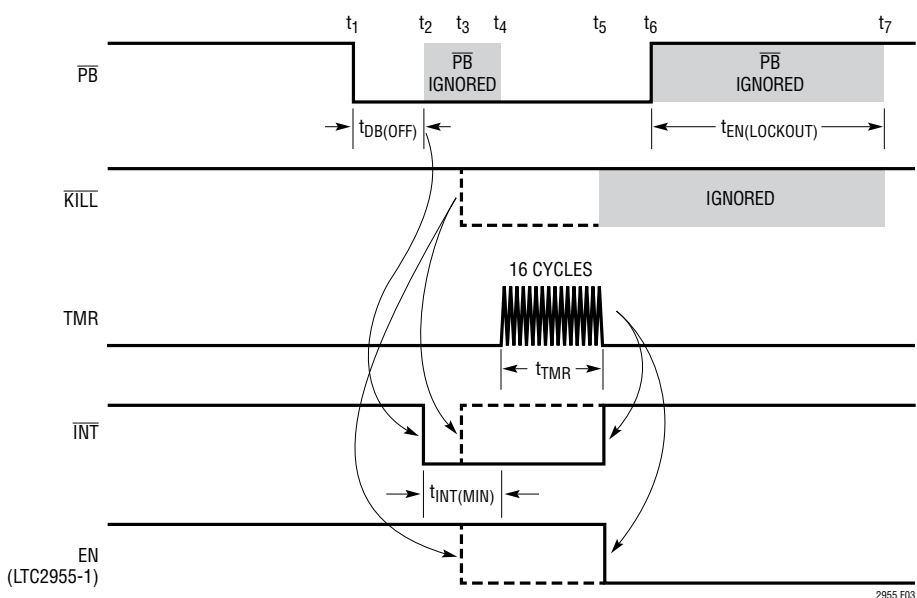
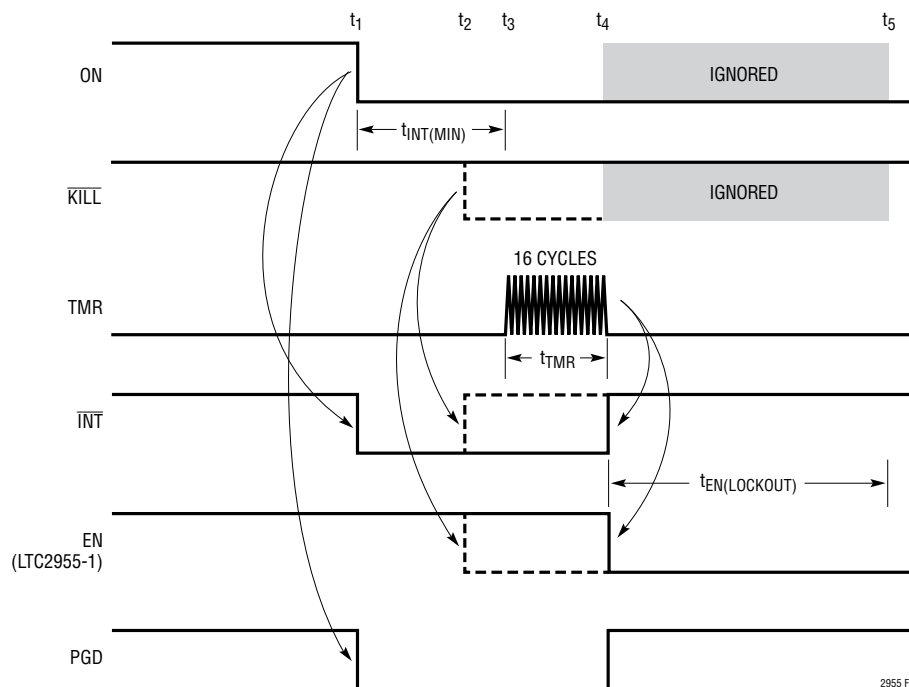

Figure 3. Pushbutton Turn-Off Timing
Figure 5. ON Pin Turn-Off Timing (DFN Only, $V_{SEL} > 1.2V$ and the Preceding Turn-On Sequence Was Initiated by the ON Pin Rising Edge)
Figure 3 shows the turn-off sequence of the LTC2955-1 initiated through the $\overline{\text{PB}}$ pin. A turn-off sequence refers to the LTC2955-1 releasing the EN output. This turns off the voltage regulator.
A high to low transition on $\overline{\text{PB}}$ (t_1) starts the turn-off sequence. In order to assert $\overline{\text{INT}}$ (interrupt output) low, $\overline{\text{PB}}$ must stay low continuously for 32ms ($t_{\text{DB(OFF)}}$). At the end of the 32ms (t_2), the $\overline{\text{INT}}$ pin is asserted low and will stay low for at least 32ms ($t_{\text{INT(MIN)}}$), even if the $\overline{\text{PB}}$ pin goes high during this period (t_2 to t_4). When the μP receives this interrupt signal, it should start to perform its power-down functions and assert $\overline{\text{KILL}}$ low (t_3) once it is done. The LTC2955-1 will then release $\overline{\text{INT}}$ and pull EN low, thus turning off the system power, as shown with dotted lines in Figure 3.
high). This can be done by holding the pushbutton down for a long period ($> t_{DB(OFF)} + t_{INT(MIN)} + t_{TMR}$) as shown with the solid lines in Figure 3. If the \overline{PB} pin remains low at the end of the 32ms minimum \overline{INT} pulse width ($t_{INT(MIN)}$), the external timer will start counting (t_4).
After the EN output goes low and the \overline{PB} pin goes high, the LTC2955-1 starts the one second lockout time ($t_{EN(LOCKOUT)}$). During this lockout time (t_6 to t_7 in Figure 3)
Figure 5 shows the turn-off sequence of the LTC2955-1 initiated by the ON pin. The timing sequence is slightly different from that by the pushbutton as there is no debounce time ($t_{DB(OFF)}$) before the \overline{INT} pin pulls low. The ON pin falling edge can start the turn-off sequence only if the following two conditions are met: (1) The preceding turn-on sequence was initiated by the ON pin rising edge, and (2) The SEL pin must be tied high ($>0.8V$). For TS8 package, the ON pin falling edge is ignored.
In Figure 5, a high to low transition at ON (t_1) starts the turn-off sequence. The interrupt output (\overline{INT}) is asserted immediately when the ON pin goes low. Unlike the \overline{PB} pin turn-off sequence, there is no 32ms debounce time ($t_{DB(OFF)}$) for the ON pin going low. This allows the system to initiate a shutdown as soon as the monitored supply is removed and allows the μP the maximum amount of time
to perform power-down functions. The \overline{INT} pin will stay low for at least 32ms ($t_{INT(MIN)}$). When the μP receives this interrupt signal, it should start to perform its power-down functions and assert the \overline{KILL} input low (t_2) once it is done. The LTC2955-1 will then release the EN and \overline{INT} outputs, thus turning off the system power, as shown with dotted lines in Figure 5.
If the μP fails to respond (\overline{KILL} pin remains high, as shown with solid line in Figure 5) and the ON pin remains low after \overline{INT} goes low, the external timer will start counting for 16 cycles (t_{TMR} , t_3 to t_4). If the ON pin remains low at the end of the 16 cycles (t_4), the LTC2955-1 will force the EN pin low and the \overline{INT} pin high. See Applications Information for adjusting t_{TMR} .
The LTC2955 allows the user to force the system power to turn off if the μP fails to respond during fault conditions. As shown by the solid lines in Figure 3 and Figure 5, when the μP fails to bring the $\overline{\text{KILL}}$ pin low after the interrupt signal is asserted, the user can force a turn-off by holding down the pushbutton. The length of time that $\overline{\text{PB}}$ must be held low is given by a fixed 64ms delay ($t_{\text{DB(OFF)}} + t_{\text{INT(MIN)}}$) plus an adjustable power-down timer delay (t_{TMR}). The adjustable delay is set by placing an optional external capacitor on the TMR pin. Use the following equation to calculate the capacitance for the desired delay. C_{TMR} is the external capacitor at the TMR pin: